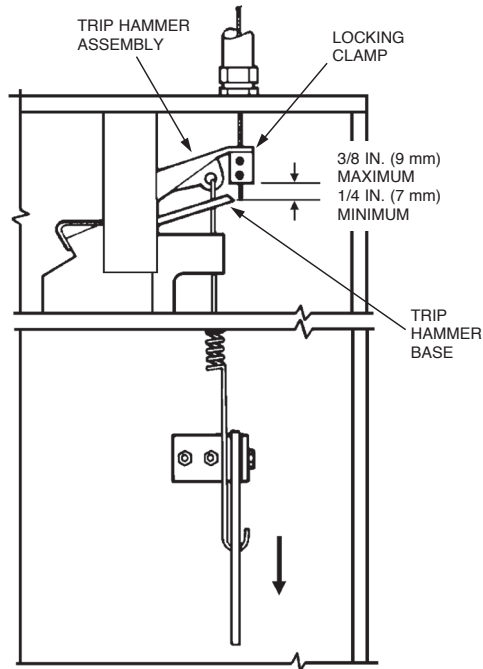

FIGURE 8-21
31. Inspect the base of the wire rope locking clamp to make certain that there is a minimum of 1/4 in. (6.4 mm) and a maximum of 3/8 in. (9.5 mm) clearance between the base of the trip hammer locking clamp assembly and the cable lever assembly. See Figure 8-21.